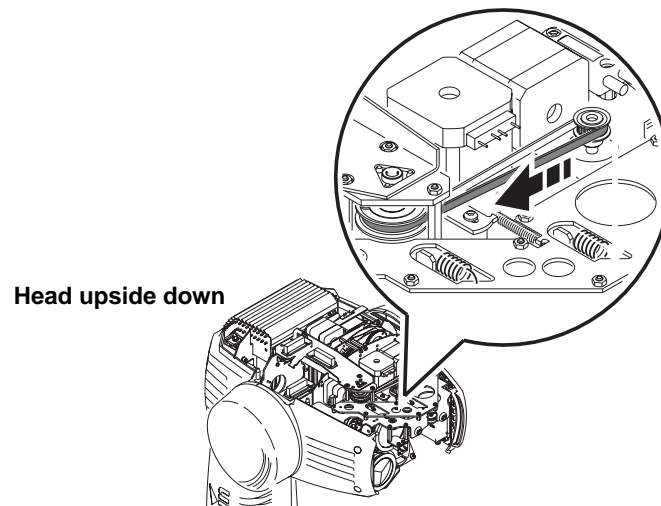

Figure 16: Moving the prism lens forward
5. Flip the head upside-down. Move the prism lens to its forward limit by pulling on its belt as shown in Figure 16.